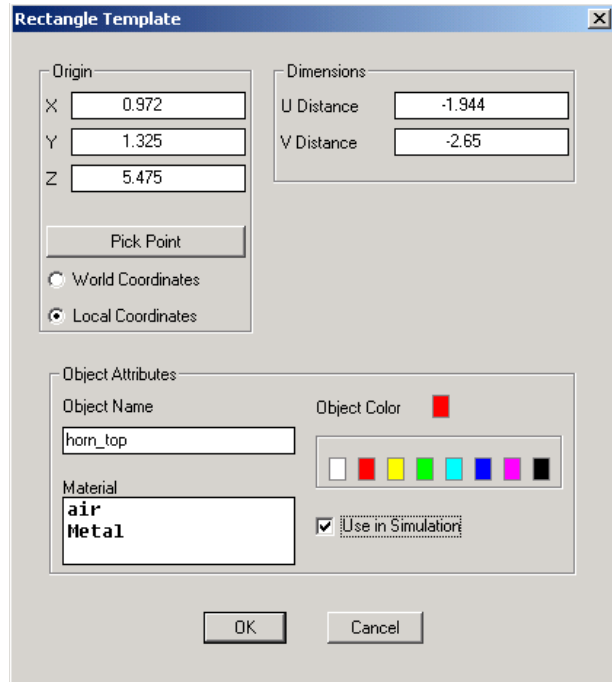

Figure 27 Rectangle Template for Horn Aperture
- 4 Fill out the template as in Figure 27. Then click OK. A 2D rectangle is drawn that represents the aperture of the horn.